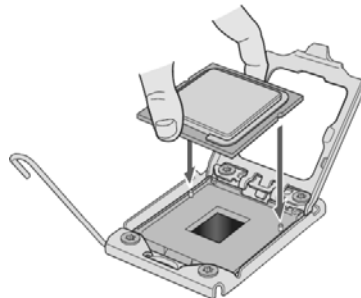

Figure 17. Install the processor
10. Orient the processor with the socket so the processor cutouts match the two socket pins and then sit the processor into the socket as shown in Figure 17.